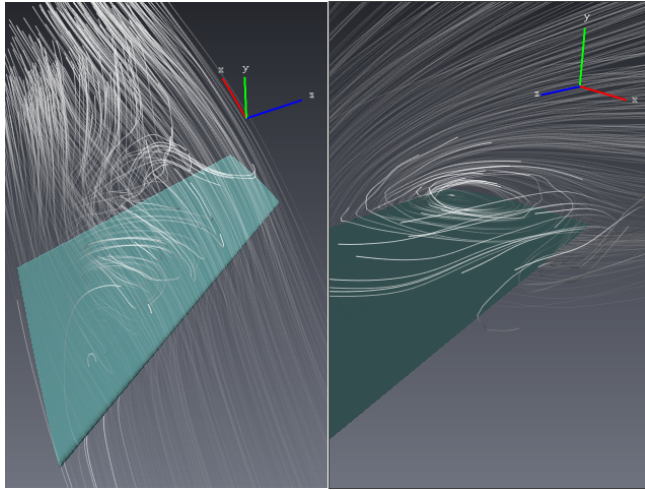

Figure 22.85: Illuminated Streamlines of the velocity vector field.
- Rotate and zoom in and out to get two different views, something like Figure 22.85.